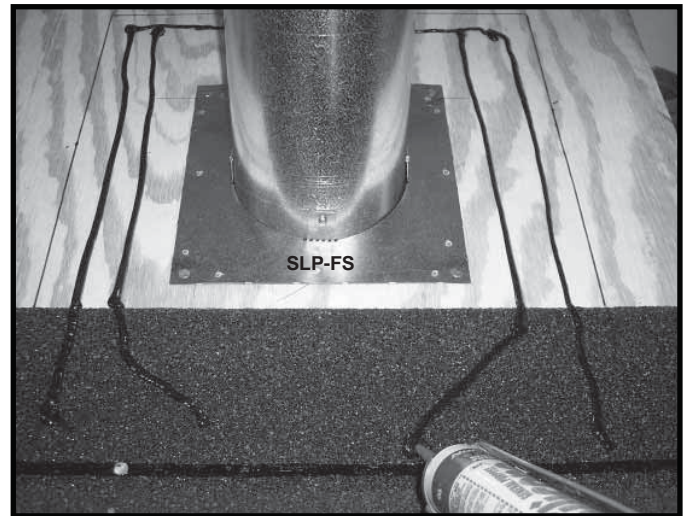

Figure 10.17 Apply Sealant
- Apply silicone sealant to roof inside the lines (Figure 10.17)